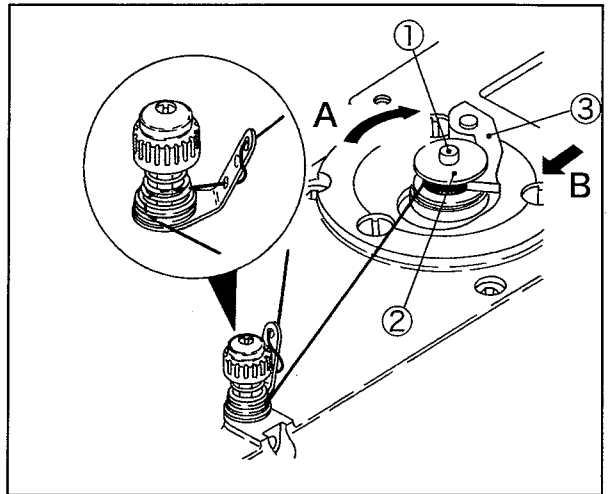

Fig.16
To wind a under thread around the bobbin, use the bobbin winder in Fig.16.
- (1) Run a thread as shown in Fig.16. Then, wind a thread around the bobbin ② several times.
- (2) Insert the bobbin ② into the bottom of the bobbin winder shaft ①.
- (3) Move the lever ③ to the arrow direction B.